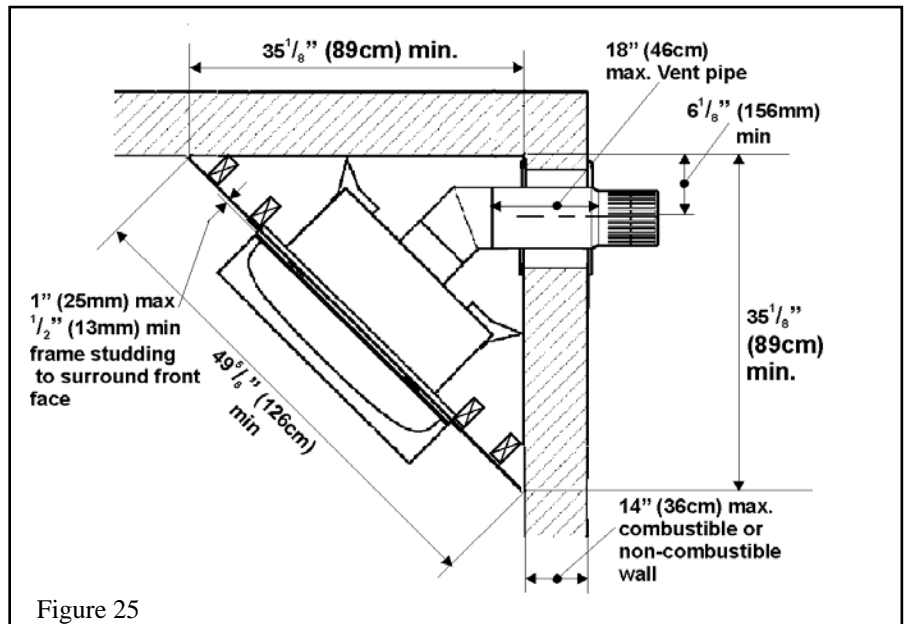

Figure 25
5.2.5. Corner location, horizontal vent run only (Fig. 25)